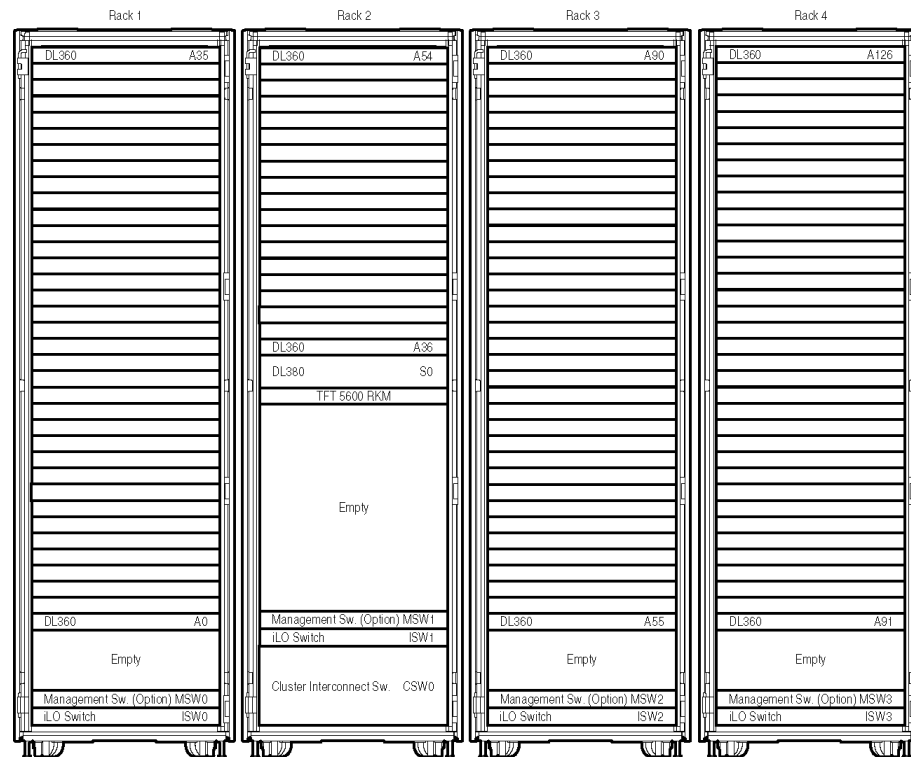

figure 1. rack positioning for a HPC LC Series solution
Upon receipt of the HPC LC Series solution, the racks will need to be placed in the appropriate positions within the customer data center. The 16-node solutions ship in a single 42U rack and require sufficient power for two (2) Power Distribution Units (PDUs). The 32-node solutions also ship in a single 42U rack and require sufficient power for three (3) PDUs. The 64-node solutions ship in two 42U racks and require sufficient power for six (6) PDUs. The 128-node solutions ship in four racks and require sufficient power for eleven (11) PDUs. When positioning the racks, be sure to place them in sequential order because the cable lengths are designed for that relative position. For example, figure 1 below illustrates the proper rack positioning of a 128-node cluster solution.